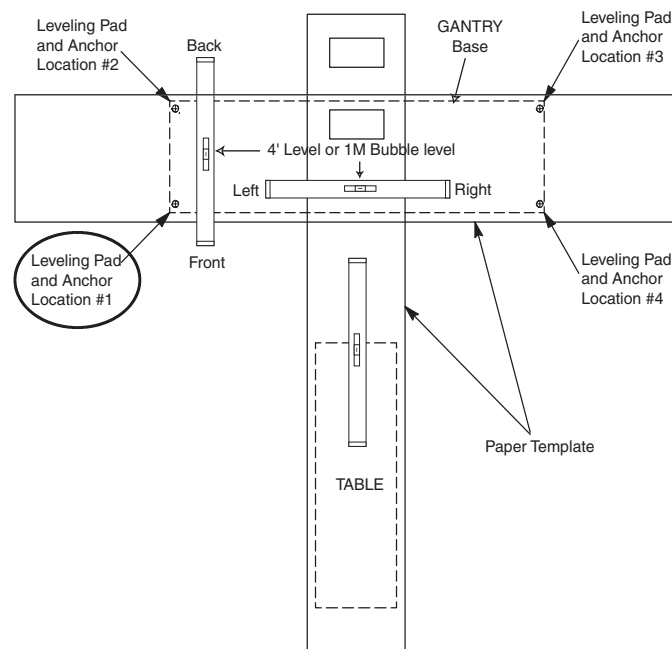

Figure 1-5 Hole Locations
- 4.) Now, check the level of the floor (See Figure 1-5) across the templates.
- 5.) Scribe a mark (e.g., use a center punch) at each of the gantry's mounting hole locations (there are four (4) of these). Also scribe marks for each of the gantry's six (6) leveler locations.
- 6.) Using a center punch, mark the three (3) table mounting hole and two (2) leveler locations.